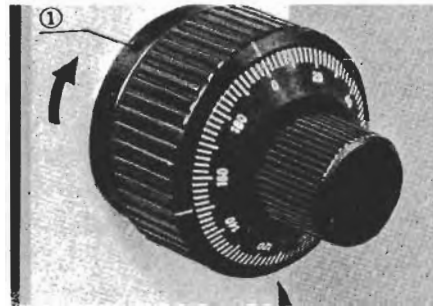

Fig. 15
Although the tension of the coarse adjustment knobs has been already adjusted for optimum performance by the manufacturer, it is possible to personally adjust the tension of the coarse adjustment for either heavy or light movement depending on the operator's preference by rotating the tension adjustment ring ①. (Fig. 15)